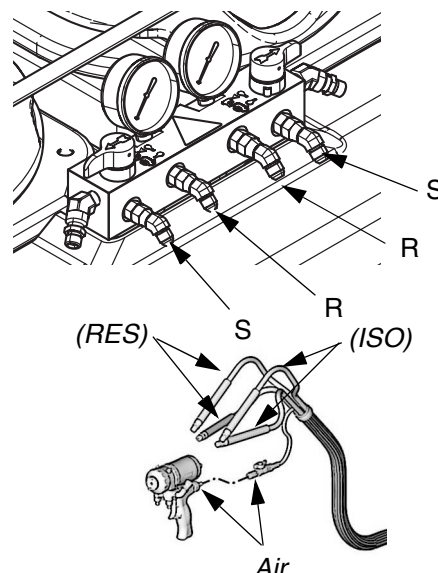

FIG. 5
1. Connect fluid supply hoses to outlet hose connections (R, FIG. 5). Red hoses for ISO, blue for RES. Fittings are sized to prevent connection errors. Connect other end of hoses to ISO and RES inputs of gun.